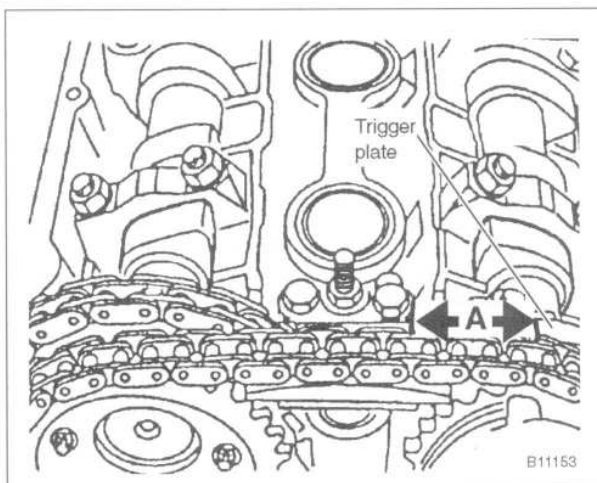

Fig. 37. VANOS reference measurement (dimension **A**) between trigger plate (sender gear) and side of secondary chain tensioner.
10. Measure and record the distance between the trigger plate edge and the side of the secondary timing chain tensioner. See Fig. 37.
12. With the solenoid actuated, measure and record the new distance between the trigger plate edge and the side of the secondary timing chain tensioner, as shown above in Fig. 37.